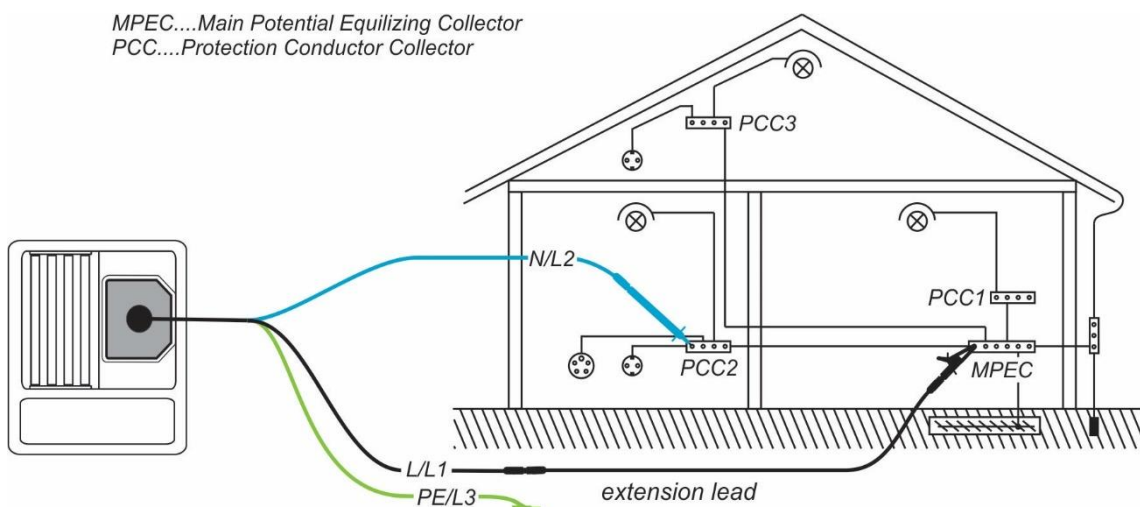

Figure 5.9: Connection of 3-wire test lead plus optional extension lead
- ❑ **Connect** the test leads to the appropriate PE wiring (see Figure 5.9).